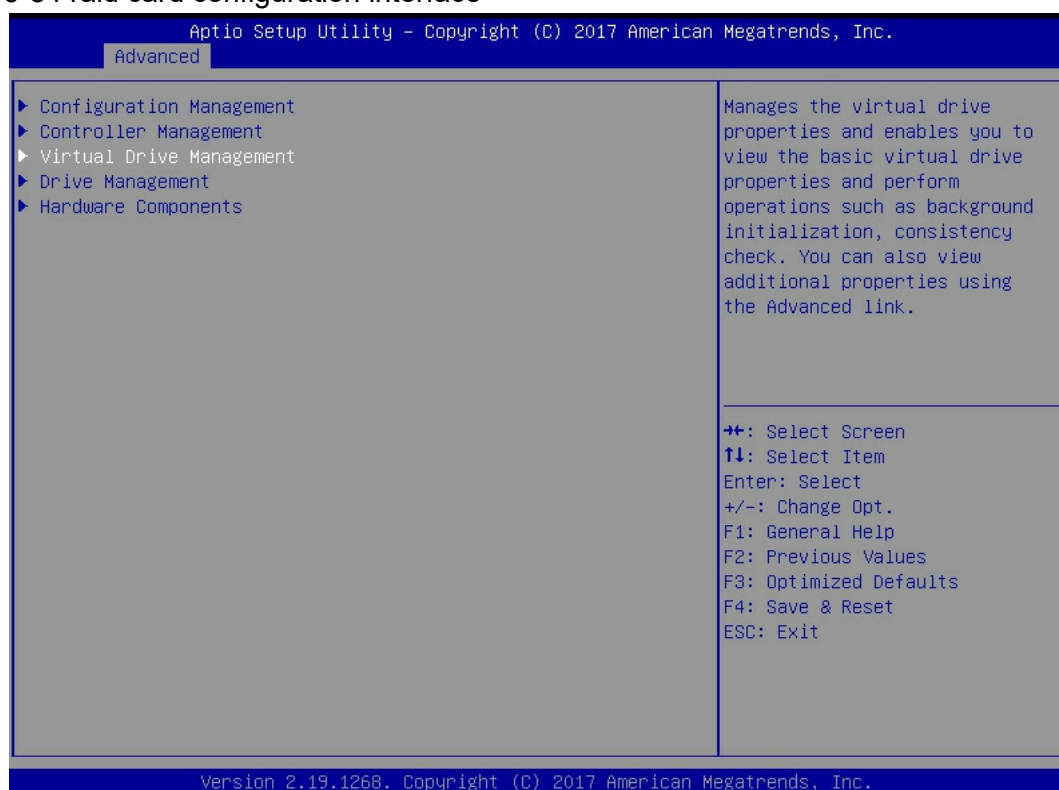

Figure 6-84
a) As shown in figure 6-84, select virtual drive management in the raid card configuration interface and press enter.
✧ Figure 6-84 raid card configuration interface